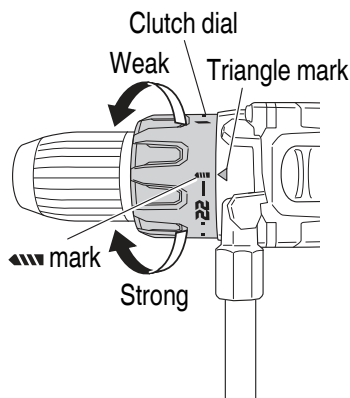
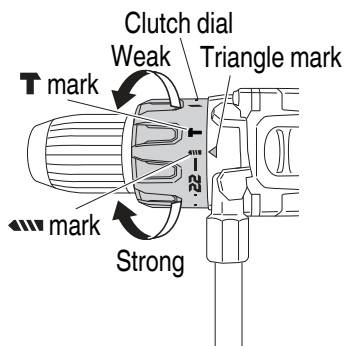

Fig. 11
Fig. 13
7. Confirm the clutch dial position (See Fig. 11)
<DV18DBL2> (See Fig. 13)
- (2) Tightening torque indication (See **Fig. 11, Fig. 13 on page 37**)
- (3) Adjusting the tightening torque (See **Fig. 11, Fig. 13 on page 37**)